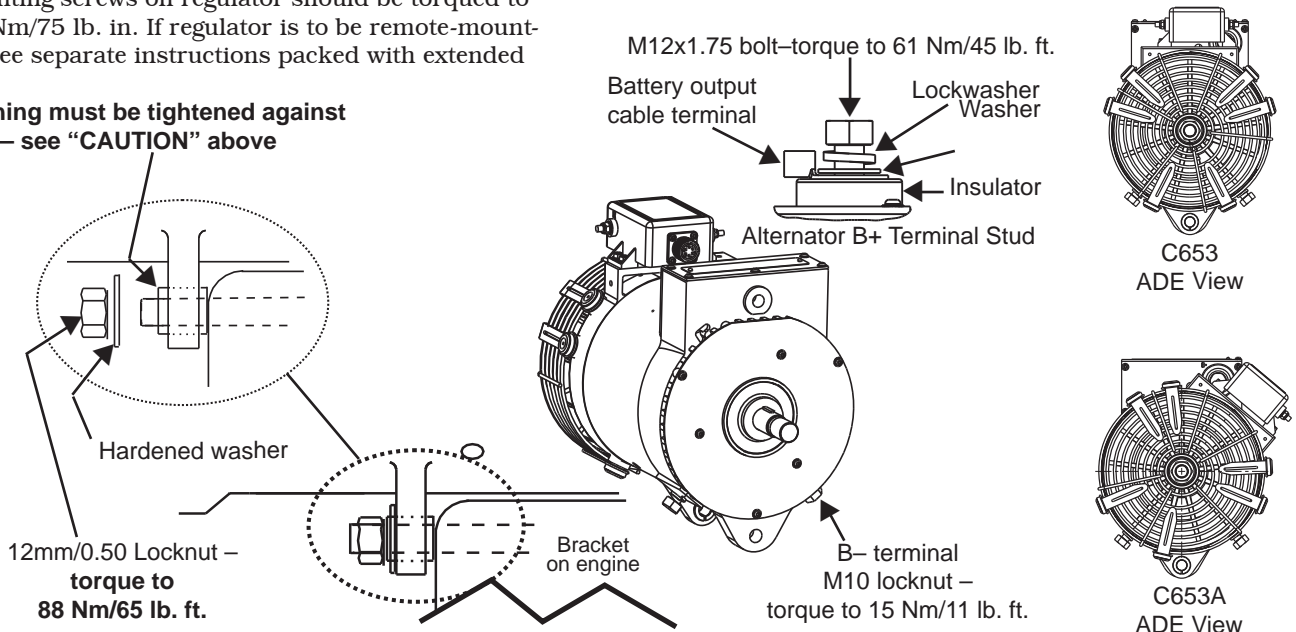

Figure 1 - C653 Alternator Installation Details
1. Install alternator as shown in Figure 1: